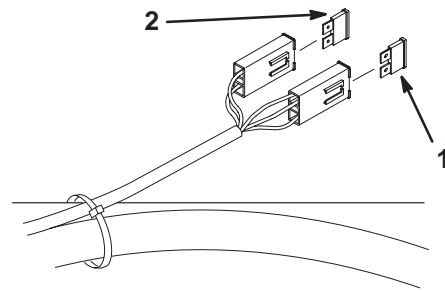

Figure 65
2. To replace a fuse, pull out on the fuse to remove it (Fig. 65).